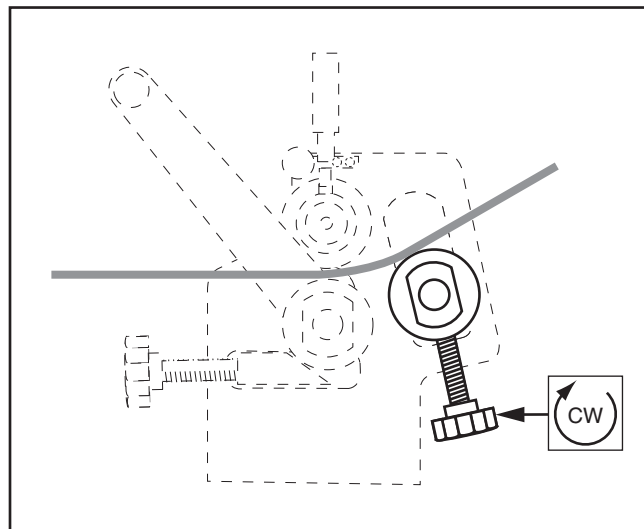

Figure 53. Setting larger bending radius.
16. Turn radius adjustment knobs to raise rear roller until larger desired radius bend is reached (see **Figure 53**). For this step, turn knobs equal amounts so rear roller is parallel with other rollers.